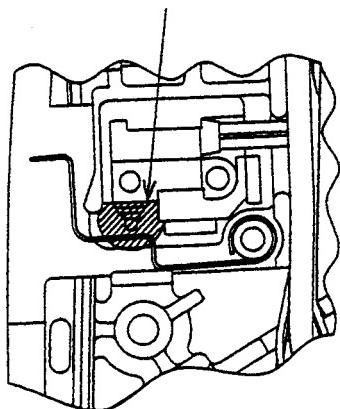

**Fig. 21**
- Apply oil (Gas Nailer Lubricant) (Code No. 885246) (Code No. 885546) to the areas shown in Fig. 21.